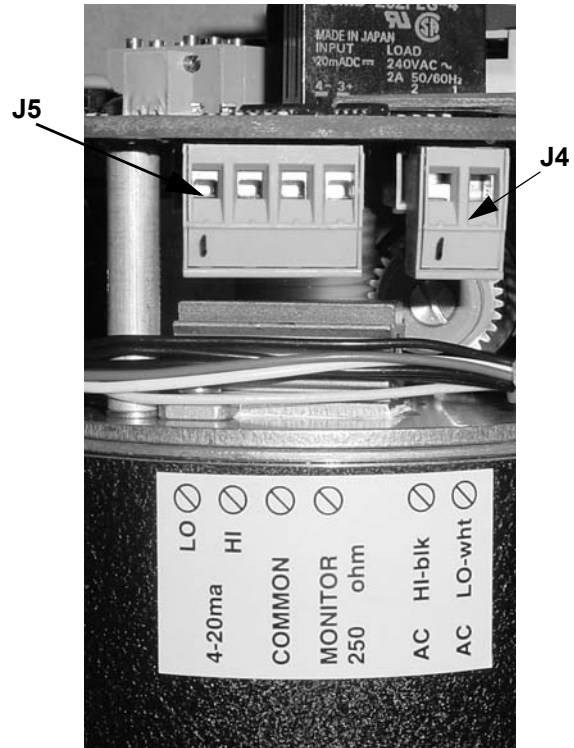

Figure 4. Circuit Board Connectors J4 and J5
4. Route wires to ECC keeping electrical interference to a minimum. Carefully pull four-position connector J5 from circuit board. Connect command signal wires to connector J5 (Figure 4 and 12). Reconnect connector J5 to circuit board.
3. Carefully pull two-position connector J4 from circuit board (Figure 4). Connect HI-blk and LO-wht wires to terminal block connector J4 (Figure 12). Reconnect connector J4 to circuit board.